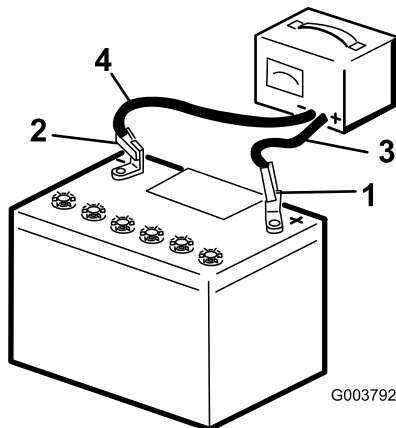

Figure 78
3. Connect the positive lead of the battery charger to the positive battery post (Figure 78).
4. Connect the negative lead of the battery charger to the negative-battery post (Figure 78).
6. When the battery is fully charged, unplug the charger from the electrical source, then disconnect the charger leads from the battery posts (Figure 78).